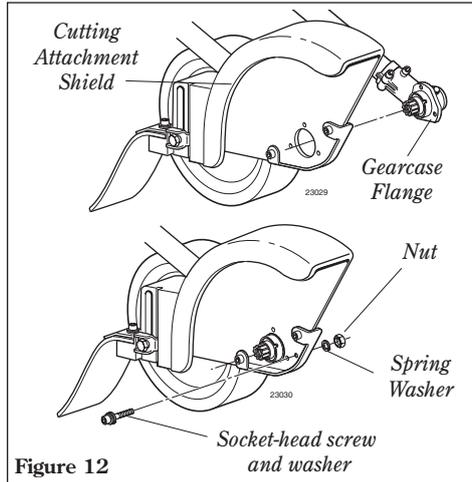

Figure 12
2. Align the cutting attachment shield assembly with the gearcase, and then fit the shield onto the matching flange on the gearcase. See figure 12.